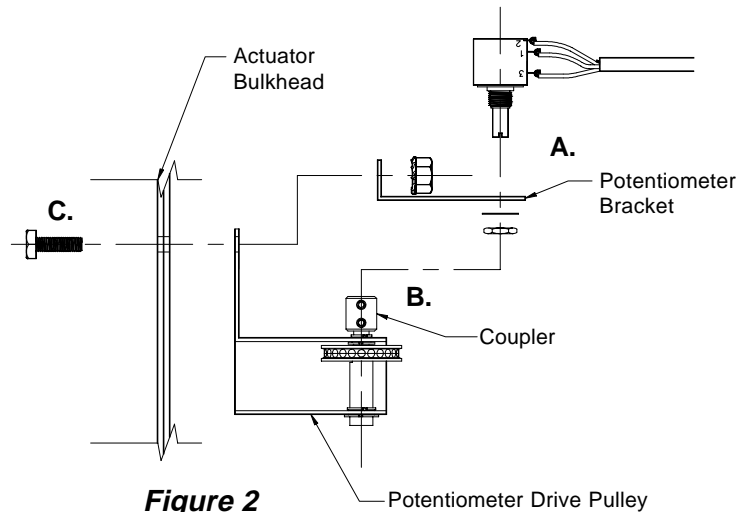

Figure 2
C) Attach this complete assembly to the actuator using the pair of mounting bolts and nuts passing through actuator bulkhead. **See Figure 2.**